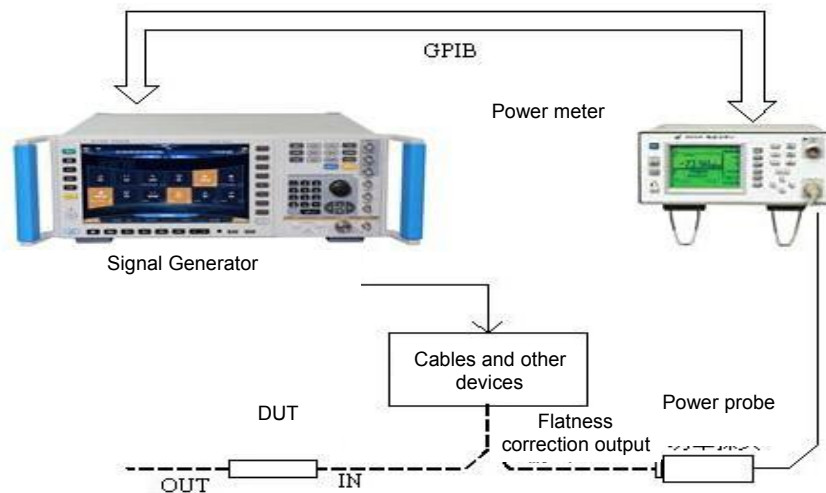

Fig.3.13 User Flatness Correction
Step 1. Connect the instrument as shown in Fig.3.13.